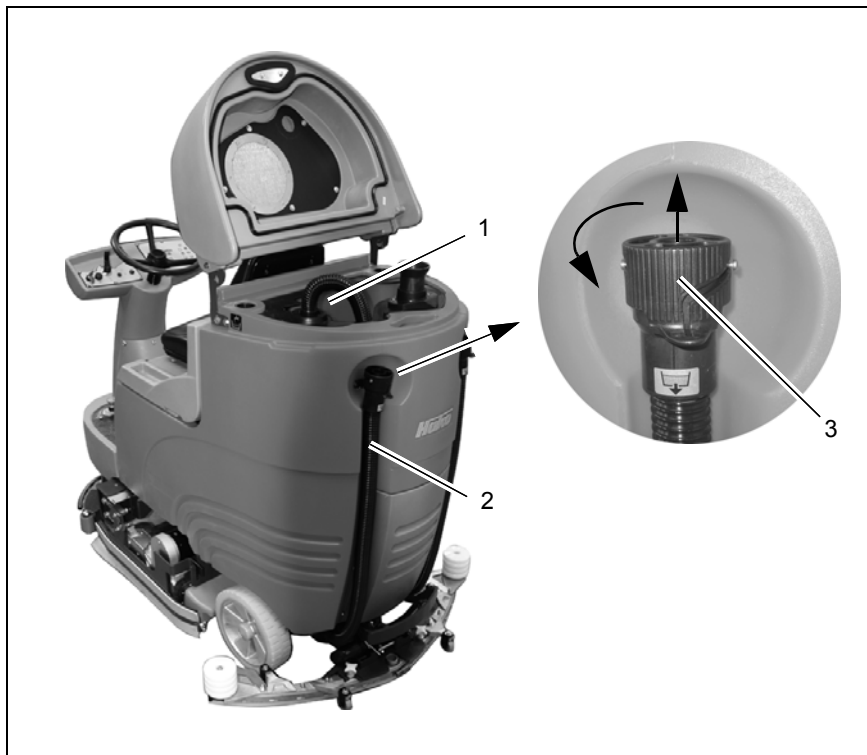

Fig. 9
Empty the waste water tank (Fig. 9/1) daily, as necessary or following the acoustic warning and indicator in the display.
2. Park the vehicle so that the draining hose (Fig. 9/2) reaches the drain in the floor.
4. Remove the draining hose from the holder and open the plug (Fig. 9/3) by turning it 90° counterclockwise. Empty the waste water tank completely.